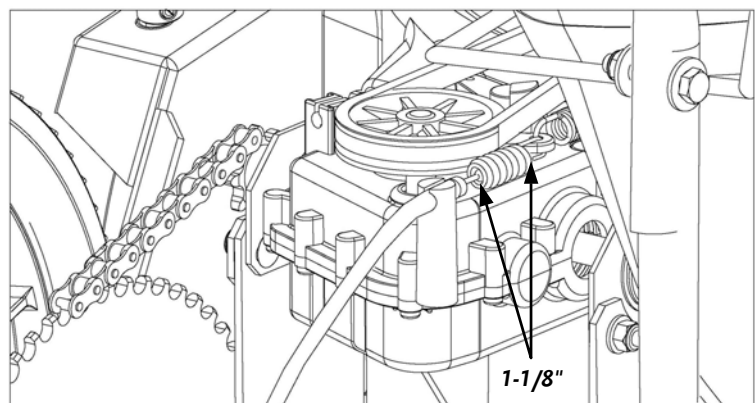

Figure 23b
3. Measure the amount of Clutch Spring stretch (**Figure 23b**). The Clutch Spring should measure 1-1/8" when engaged.